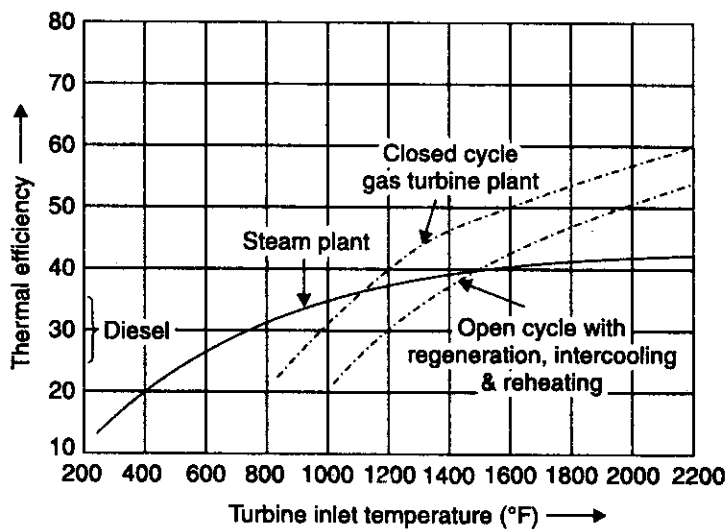

Fig. 5.16. Comparison of thermal efficiency between steam and closed cycle gas turbine plants.
- Fig. 5.16 shows the *comparison of thermal efficiency between steam and closed cycle gas turbine plants.*